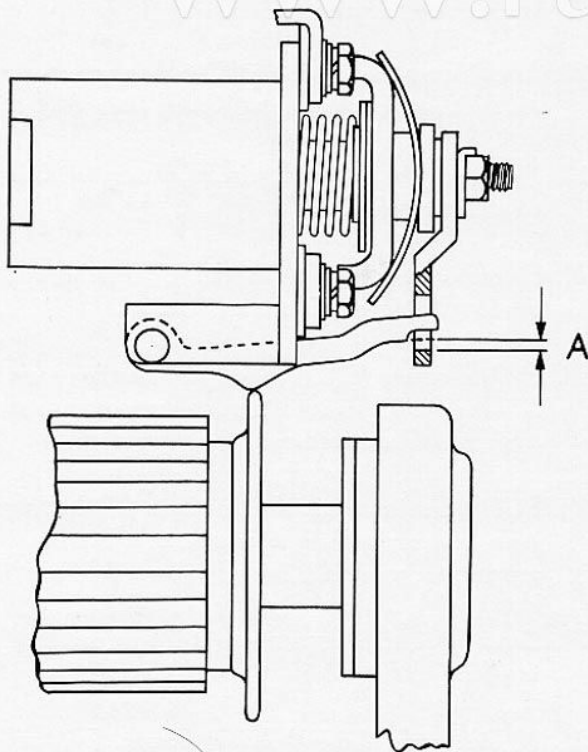

FIG. 7. SOLENOID SWITCH
17. Fit commutator endshield to yoke (15) ensuring that the dowel in the yoke is correctly located.
18. Replace screws (22), (24) and (26) securing main field coil ends, positive terminal connector, and auxiliary field connections to the solenoid switch.
19. Replace screws and insulating pieces (31) holding main field connections to connector at bottom of commutator endshield.
21. Replace main fixing bolts or screws (37) and tighten.
23. Fit washers and nut (20) to armature plunger, and tighten.
26. Check that the relationship between trigger (19) and tripping disc (30) is correct, by pulling the armature forward until the trigger is raised to its highest extent by the tripping disc. When the trigger is raised there should be an ample gap between the shoulder on the trigger and the bottom of the slot in the catch plate (see "A", Fig. 7).